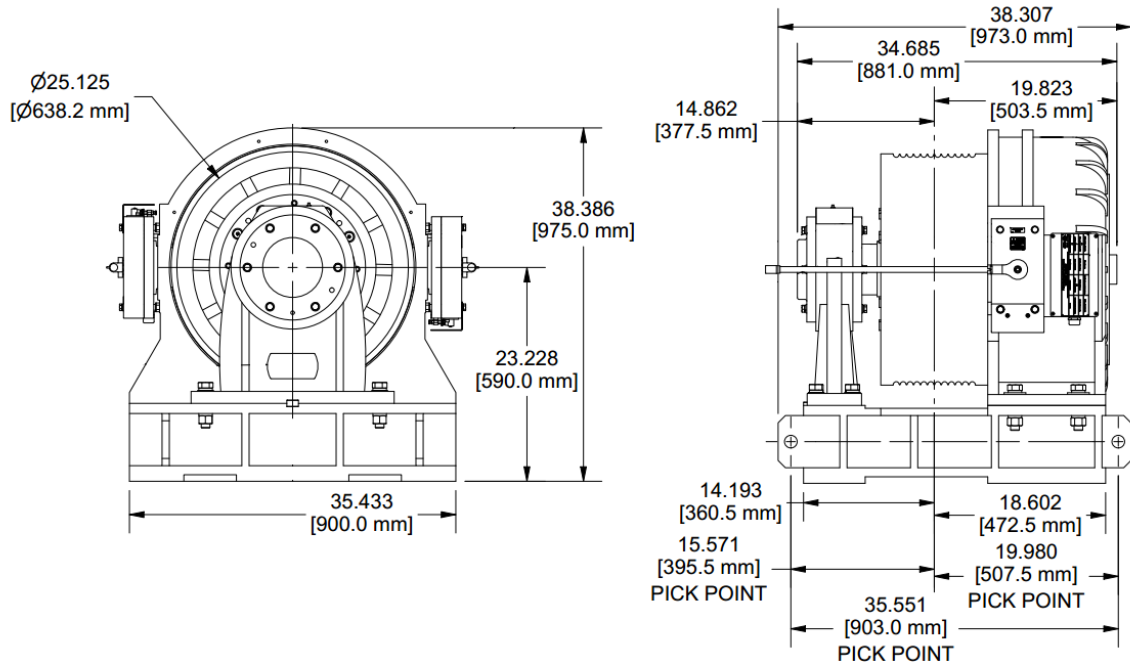

Figure 6
- The Thermal Protection Switch (TPS) is wired with leads labeled and supplied into the machine electrical enclosure. Refer to Figure 6.